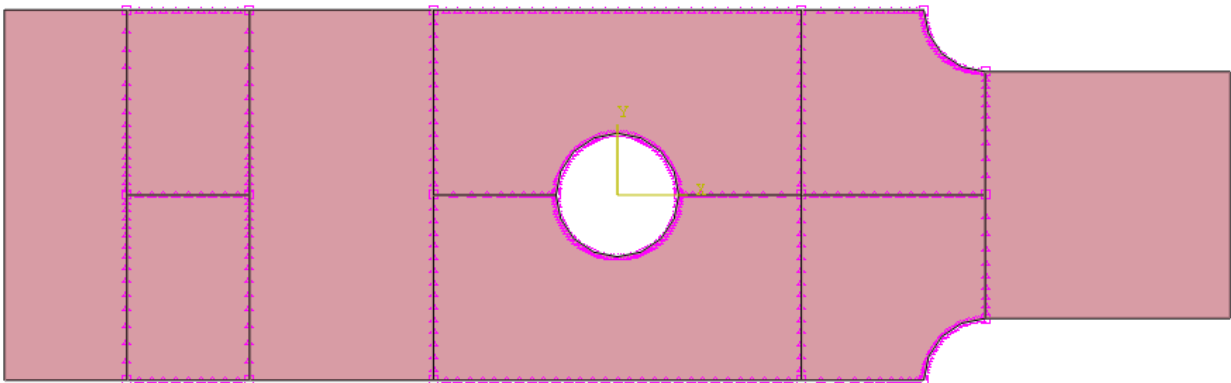

Figure 20. Seeded Part
- If the part has been seeded correctly, the viewport should look similar to that in Figure 20.